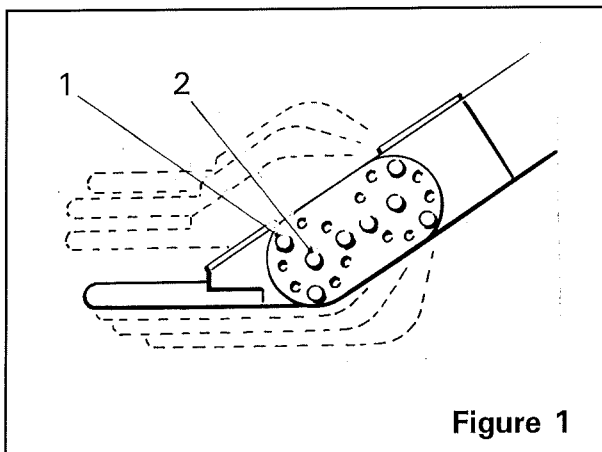

Figure 1
2. Adjust the drawbar to align with the tractor pick-up hitch ensuring that the towing eye remains parallel with the ground. To adjust the angle of the towing eye, remove the twelve securing bolts (*item 1, figure 1*) and loosen the four pivot bolts (*item 2, figure 1*). Reposition the towing eye and securing bolts and retighten.